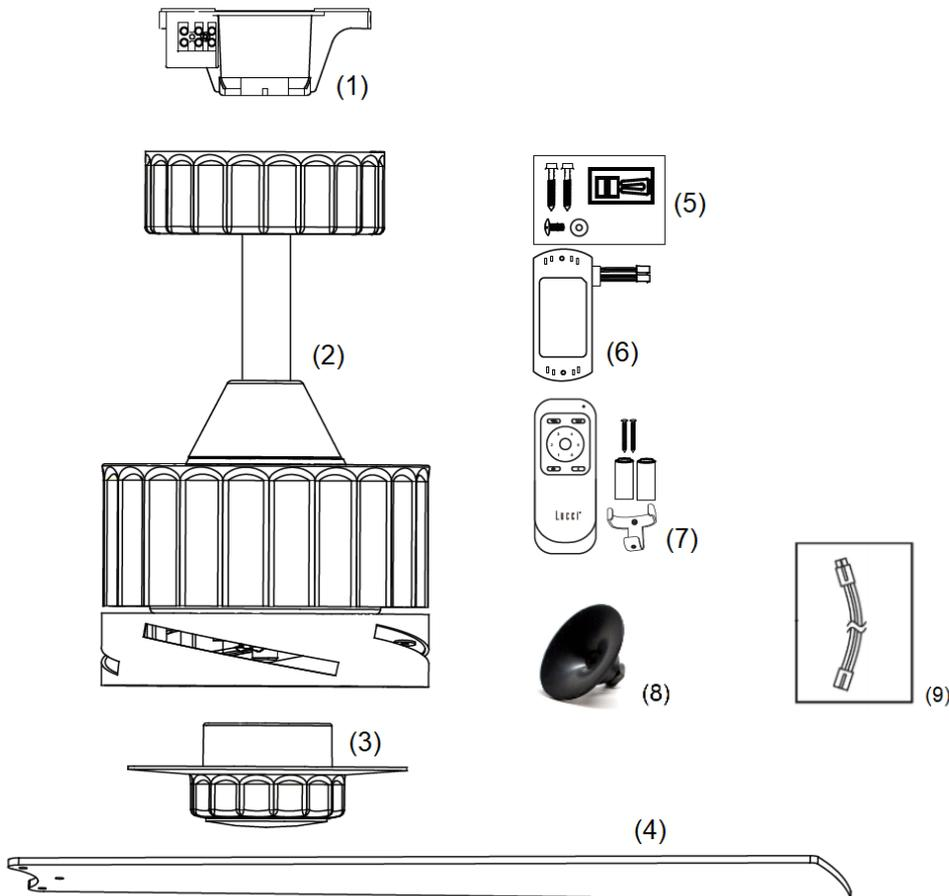

Fig. 1
**Note:** If a down rod extension is used, the Light kit extension cable (item 9, of Fig.1) is required.